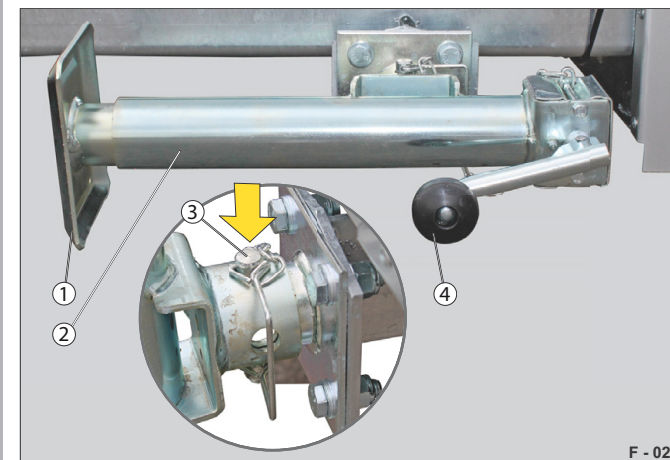

Fig. 37 Position for driving
- ▶ Wind up the adjustable support (Fig. 37 /1) all the way up with the crank handle (Fig. 37 /4).
- ▶ Pull out the plug pin (Fig. 37 /3).
- ▶ Slowly swivel the support (Fig. 37 /2) up.